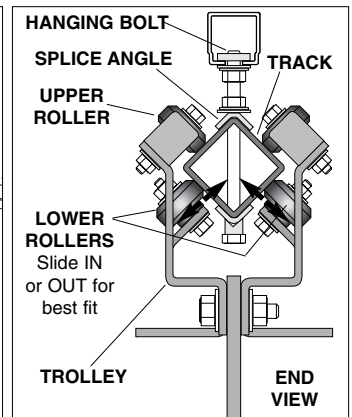

FIGURE 5
STEP 5– If necessary, adjust trolley(s) for proper fit. Loosen (do not remove) nuts securing bottom rollers. See Figure 5. Slide roller assembly in or out as needed. Tighten nuts. Test trolley.
STEP 4. Roll trolley onto curved rail. If trolley roller adjustment is needed, see Step 5 and Figure 5, over.